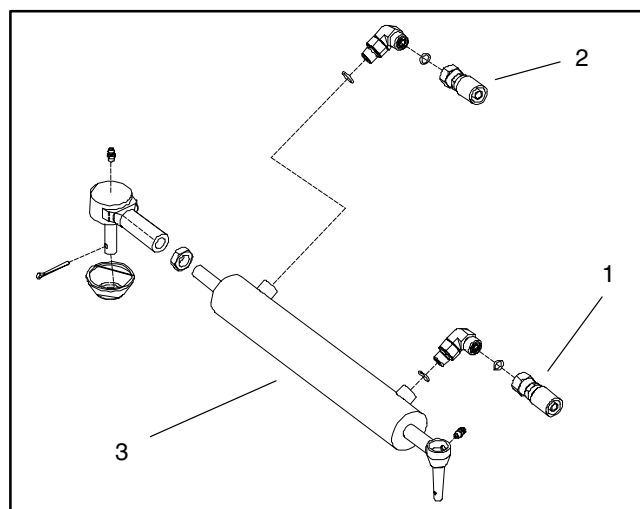

Figure 51
5. Disconnect hydraulic hoses from steering cylinder (Fig. 51). Allow hoses to drain into a suitable container.
6. Lubricate new o-rings and connect hydraulic hoses to steering cylinder (Fig. 51). Tighten hose connections.